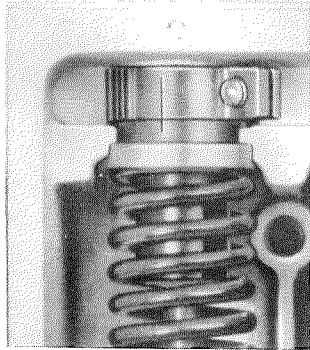

Figure 07-5/10
After finishing the output adjusting and testing on the 'A'-Pump of Model OM 636 tighten the clamping screws of the pinion segments and mark the position of the control sleeve in relation to the (respective) pinion segment with a marking tool. Make sure that there is only one marking each. Old markings must therefore be removed (Figure 07-5/10).
1. Whether the clamping pieces (2) lie within the respective marking lines (1) (see Figure 07-5/6).